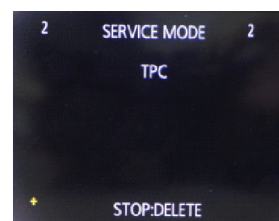

Fig.3-10
6. The (+) mark appears in the bottom left (Fig.3-10). Then touch the (+) mark.